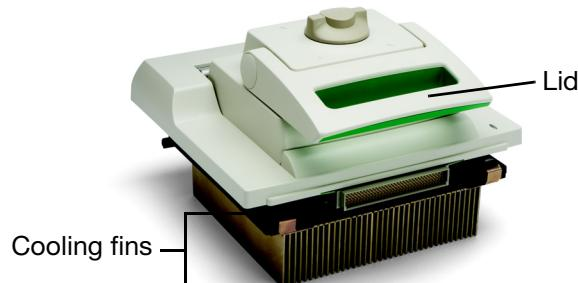

Figure 4. The lid and cooling fins of a 96-well reaction module.
- Figure 4 shows the lid and cooling fins for the 96-well reaction module